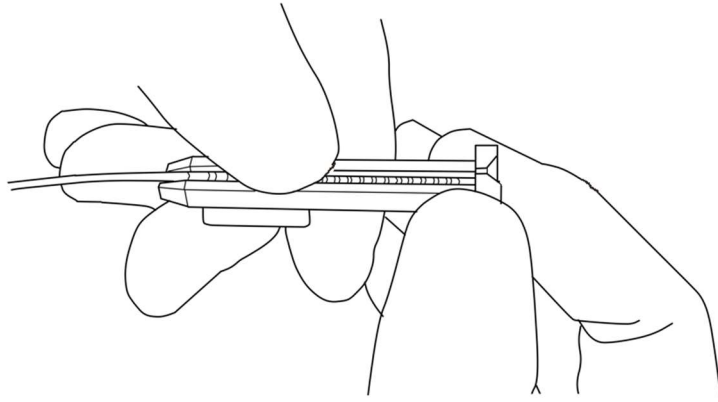

Figure 11.2: Pushing lead into lead adapter slot.
6. Push the lead down into the slot completely using your finger (Figure 11.2), so that the lead is flush with the top of the slot. The lead should not move when fully pushed into the slot. After the lead is in the slot, press down again along its length to ensure it is secure in the slot.